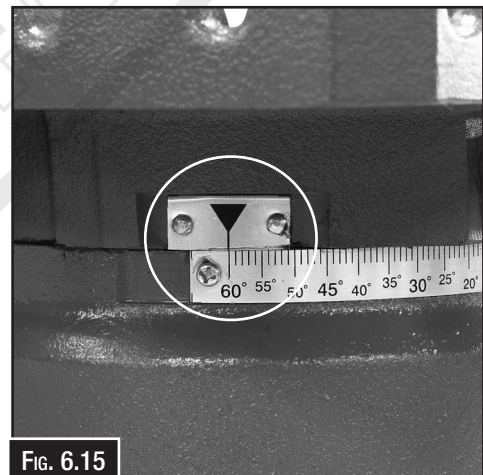

FIG. 6.15
3. Raise the saw bow, then move the head and set the scale to 60°. (Fig. 6.15) then lower the saw bow and lock in place.